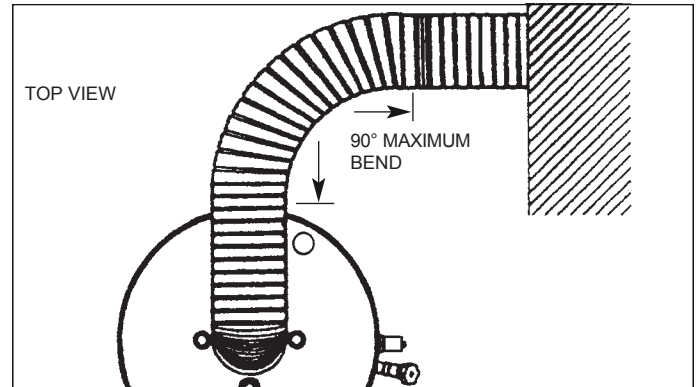
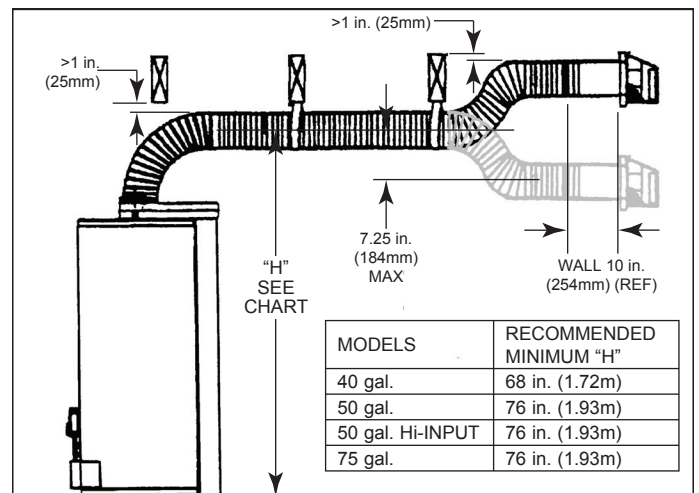

FIGURE 26
FIGURE 27
- B. Do not combine condition 1 (Figure 26) with condition 2 (Figure 27) in the same installation.
- C. The maximum allowable drop from vent center-line to vent termination center-line (Figure 27) is 184mm (7.25 in.).